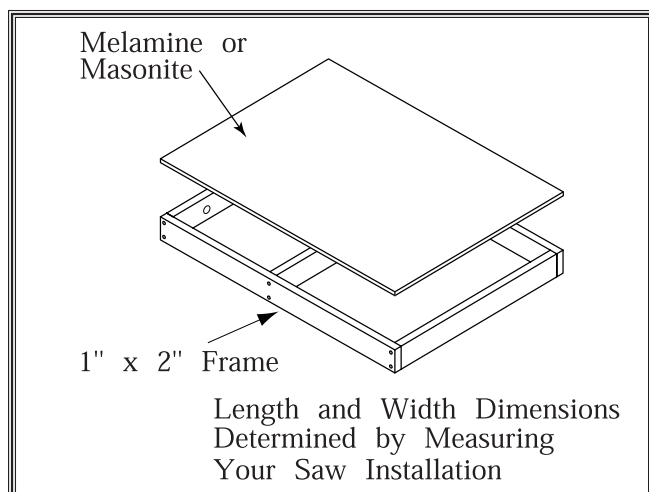

Figure 6. Extension table.
4. Position the legs as shown in **Figure 6** and insert two 1/4-20 x 1 1/2" hex bolts with washers through each rail and loosely thread them into the legs.
1. Construct the extension table as shown in **Figure 6** using a frame with a separate top or a solid table can be made from countertop materials with a 3/4" to 1" thick particle board surfaced with a Melamine® or Formica® type of material.